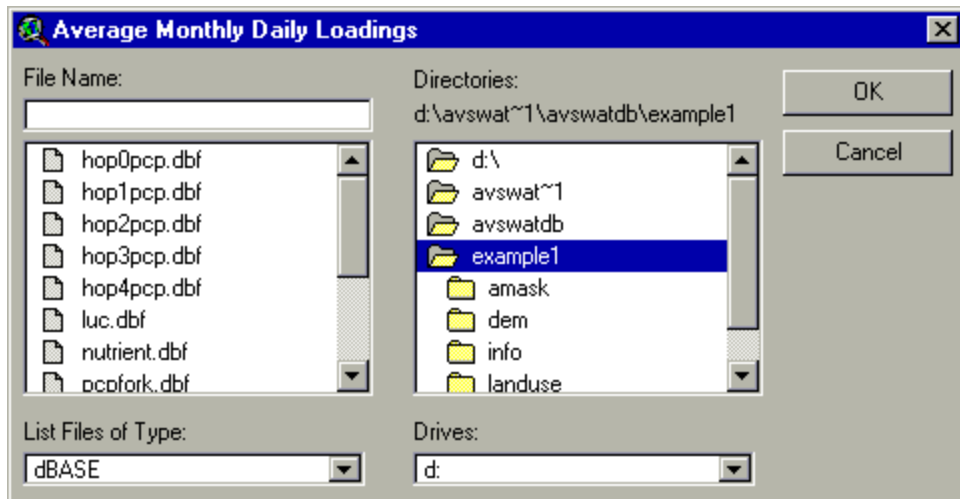

Figure 10.12
- iii. A browser will be displayed, allowing the user to select the dBASE file (.dbf) or text file (.txt) file containing the inlet discharge data from disk (Figure 10.12).